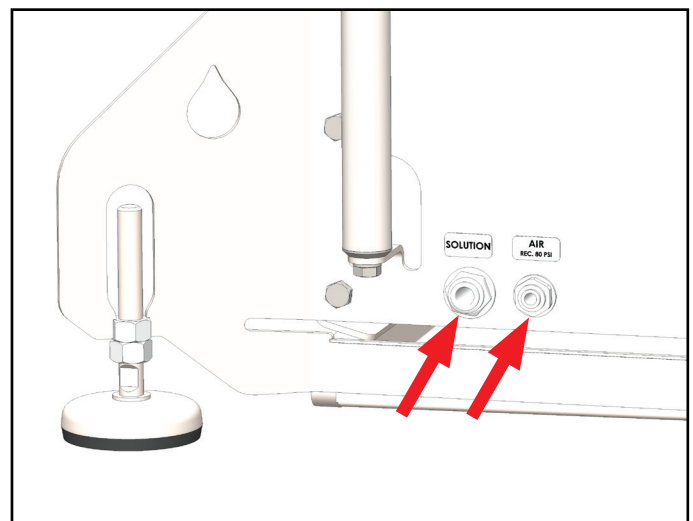

Fig. 6.3: Solution and air line quick fit connections
5. Connect solution and air lines to the unit via the quick connect fitting on the side of the unit [Figure 6.3].